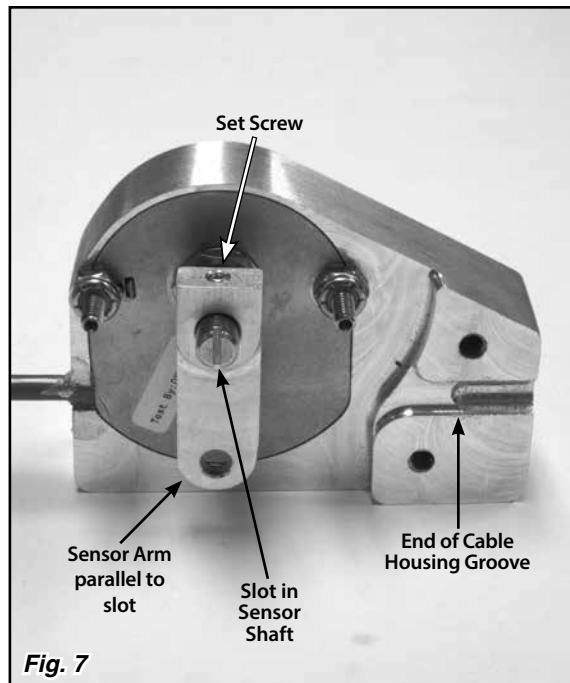

Fig. 7
Step 4: Make sure the sensor arm is parallel to the slot in the sensor shaft, with the set screw in the top of the sensor arm aligned with the slot. If not, loosen the set screw in the top of the sensor arm using a 1/16" Allen wrench, and adjust the position of the sensor arm on the shaft. **Fig. 7**
There is a groove in the sensor housing that the end of the cable housing fits in to. Mark the cable housing at the end of the cable housing groove. Remove the cable housing from the adjustable cable mounting bracket. **Fig. 6 and Fig. 7**